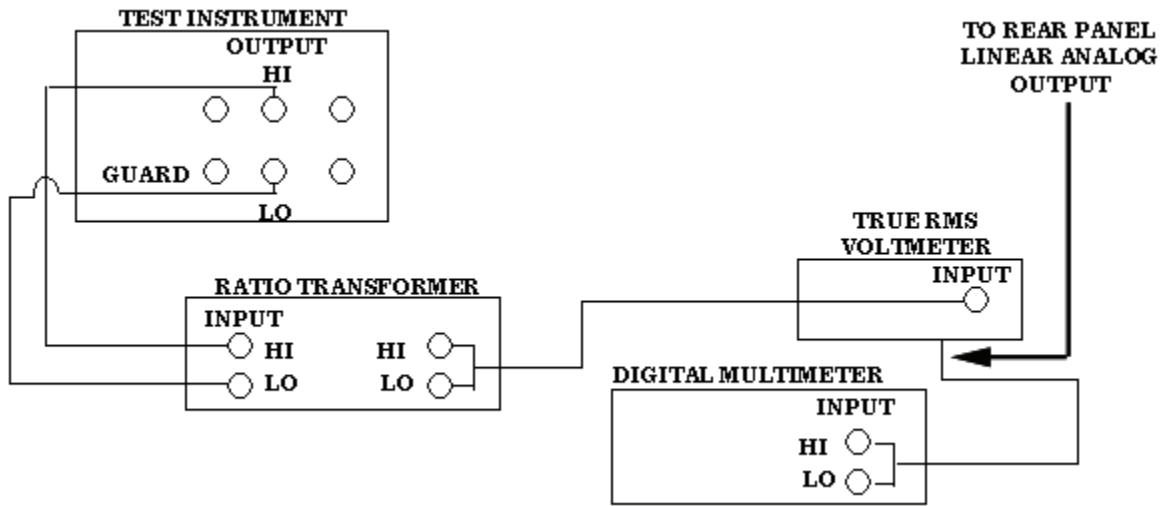

Figure 2. 1 mVAC equipment setup.
(10) Connect equipment as shown in figure 2.